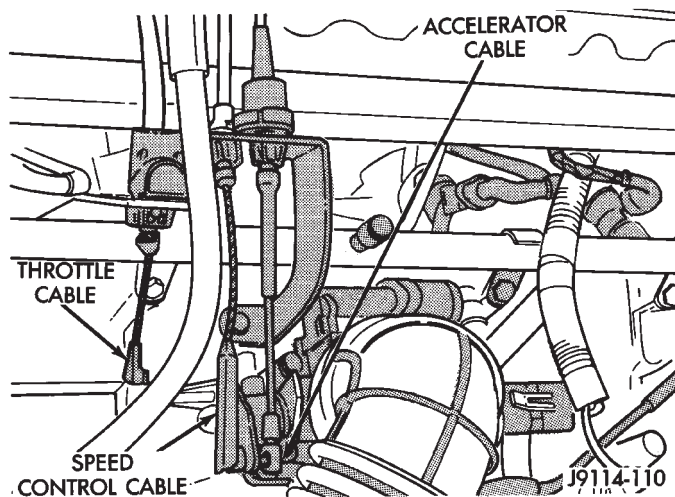

Fig. 16 Throttle Body Cables—Typical
(11) Verify that hose connections to all ports of vacuum fittings on intake manifold are tight and not leaking.
(12) Inspect accelerator cable, transmission throttle cable (if equipped) and cruise control cable connections (if equipped). Check their connections to the throttle arm of throttle body for any binding or restrictions (Fig. 16).